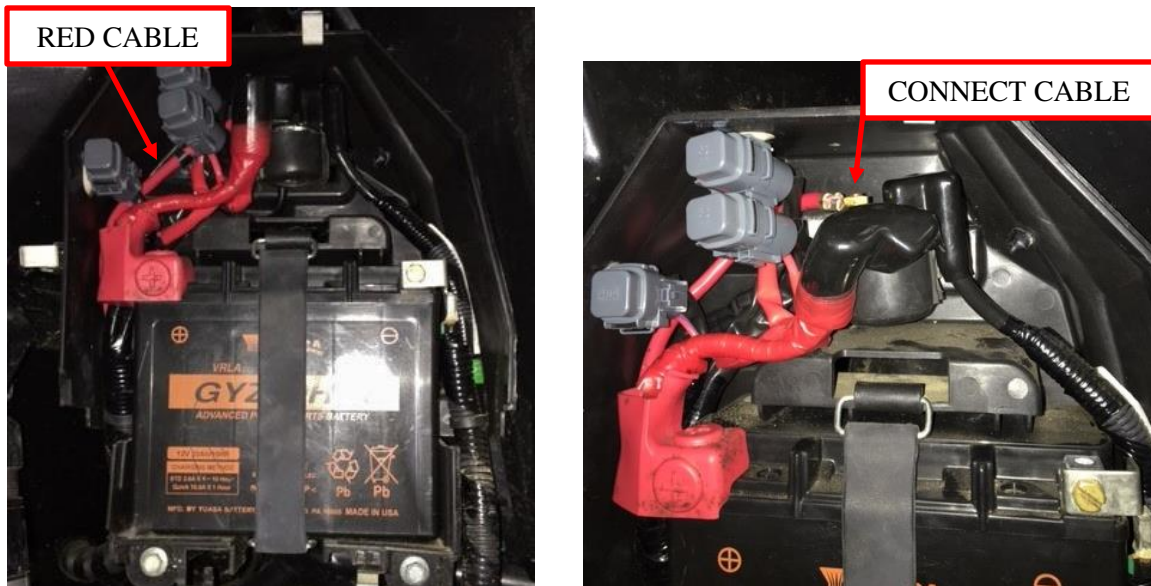

Figure 17: Connect the red winch power cable in the battery box.
18. If you have not previously installed a winch or a busbar that utilizes the winch power cables under the front hood, you will need to connect the red winch power cable in the battery box under the driver's rear fender. See Figure 17.